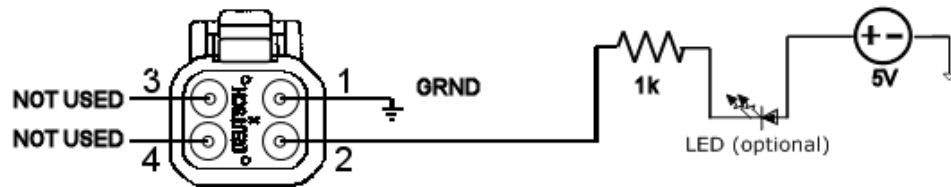

Figure 8. Typical connection to the monitor cable. (Users to verify values based on their circuit design).
2. The signal "Overvoltage" (Pin 2) is an open collector output indicating when any cell voltage is above the threshold voltage. A pull-up resistor ($\geq 1k\Omega$) connected to a 5V supply should be connected to Pin 2. In this configuration, the voltage at Pin 2 will be $\sim 5V$ when the circuit is not active. When a cell in the module goes into an over-voltage condition, the output of Pin 2 goes low. This signal can be used as a signal to the system electronics to stop charging in order to allow the cell(s) to discharge to an acceptable voltage through the built-in passive balancing system. Figure 8 shows a typical connection to use this system.